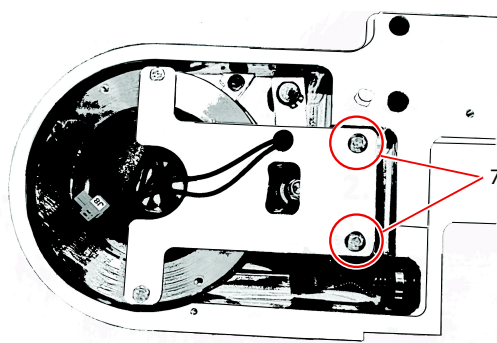

Fig. 4-105 Release screws
7. Release the two screws (7), Fig. 4-105. Remove the beta magnet.